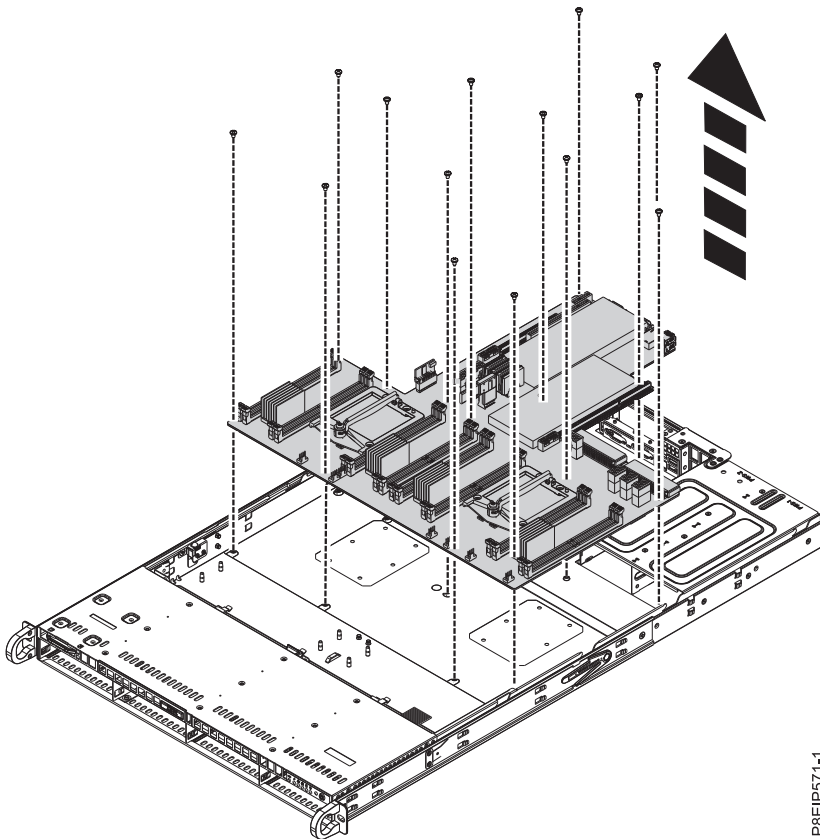

Figure 35. Lifting out the system backplane
13. Moving the front cables out of the way, and carefully holding the processor heat sink, move the system backplane slightly forward and up to remove it. See Figure 35 on page 34.